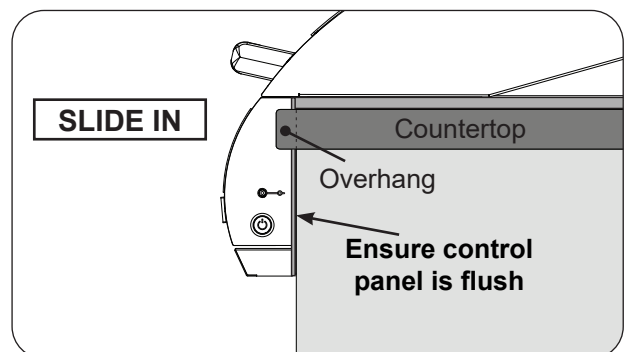

Fig. 24-3 Slide in unit (ensure flush)
- Ensure the unit fully slides in so that the control panel sits flush against the enclosure front wall. See the COUNTERTOP OVERHANG section in ENCLOSURE REQUIREMENTS for details. See Fig. 24-3.